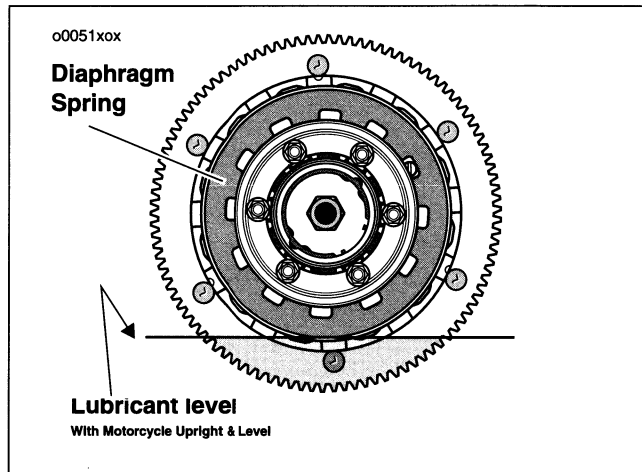

Figure 40. Lubricant Level
4. See Figure 40. Primary chain case lubricant should be at the bottom of the clutch diaphragm spring.